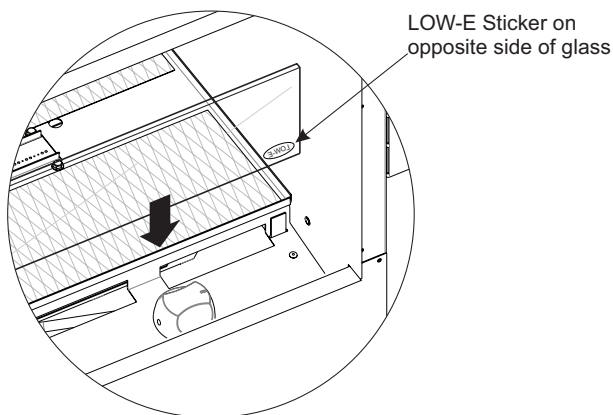

Figure 21
2. Install the glass wind panel (two used on see-through fireplaces). The glass panel has a low emission (low-E) coating applied to one side. The panel must be installed with the low-E coating facing the burner. The panel will have a sticker located in the bottom corner of the side which has the low-E coating. Install the glass panel with the sticker facing the burner and the bottom of the panel. **See Figure 21.**